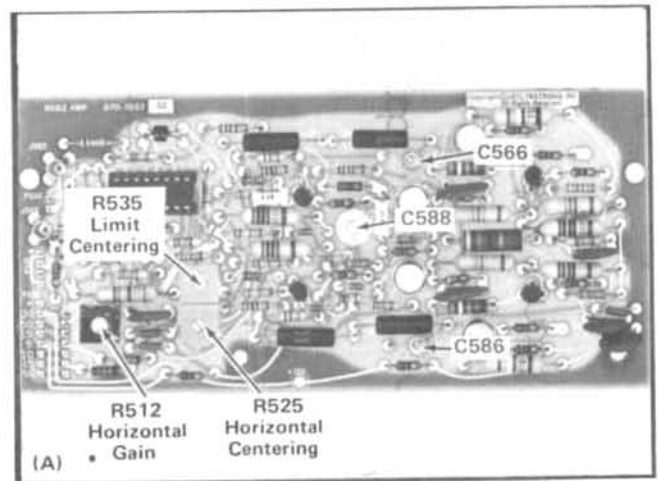

Fig. 2-6. Location of Horizontal System adjustments (Horizontal Amplifier board).
h. ADJUST—Limit Centering adjustment R535 (see Fig. 2-6) to match the DC levels of both waveforms.
c. ADJUST—Horizontal Centering adjustment R525 (see Fig. 2-6) to position the trace to the vertical center line.
j. ADJUST—C566, C586, and C588 (see Fig. 2-6) for one marker each two divisions over the center eight divisions (use low capacitance screwdriver). Set C588 to minimum capacitance and adjust C566 and C586 equally for optimum timing. If necessary readjust C588.